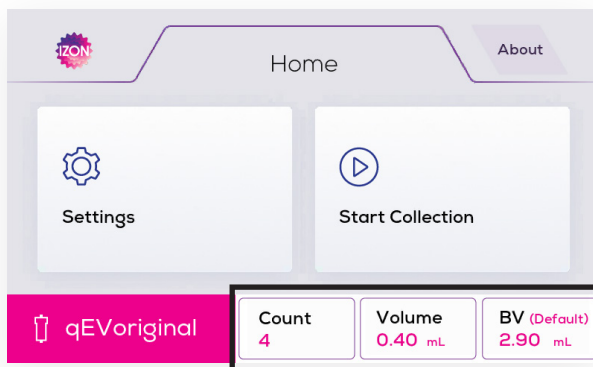

Figure 14: Location of the collection schedule menu.
1. From the home screen, press **Count**, **Volume** or **BV** as shown in Figure 14.